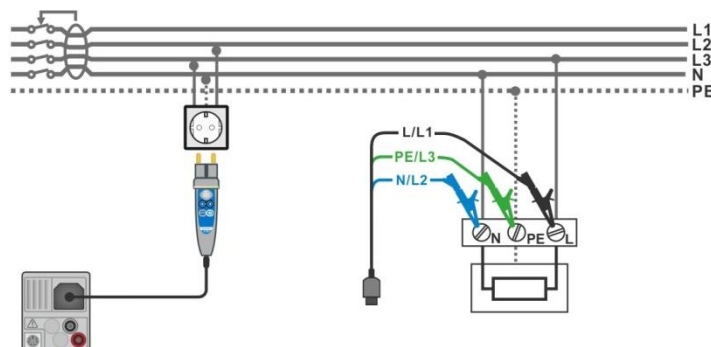

Figure 7.88: AUTO TN (RCD) measurement
- Connect test leads or Plug commander to the object under test, see **Figure 7.88**.